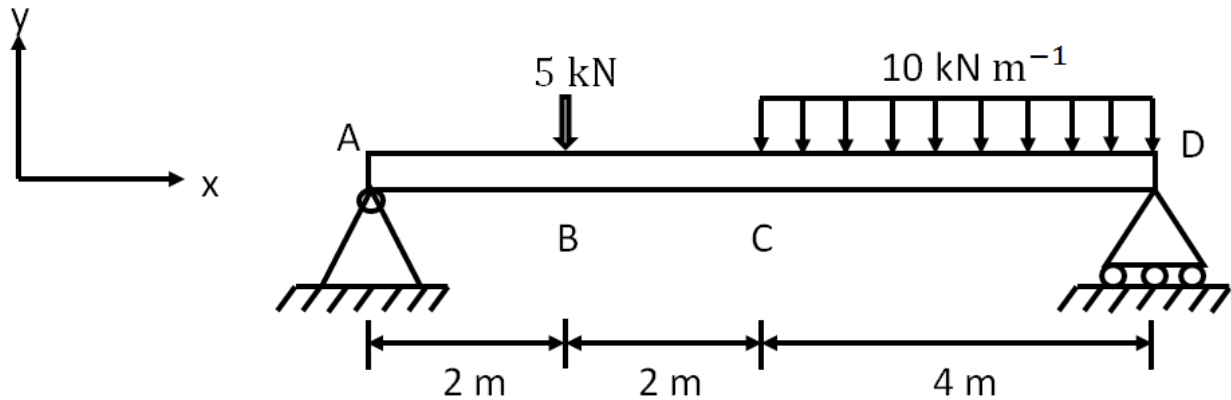

Fig. Q 4 (c)
- c) Use unit load method to find the deflection at the center of the beam shown in Fig. Q 4 (c).